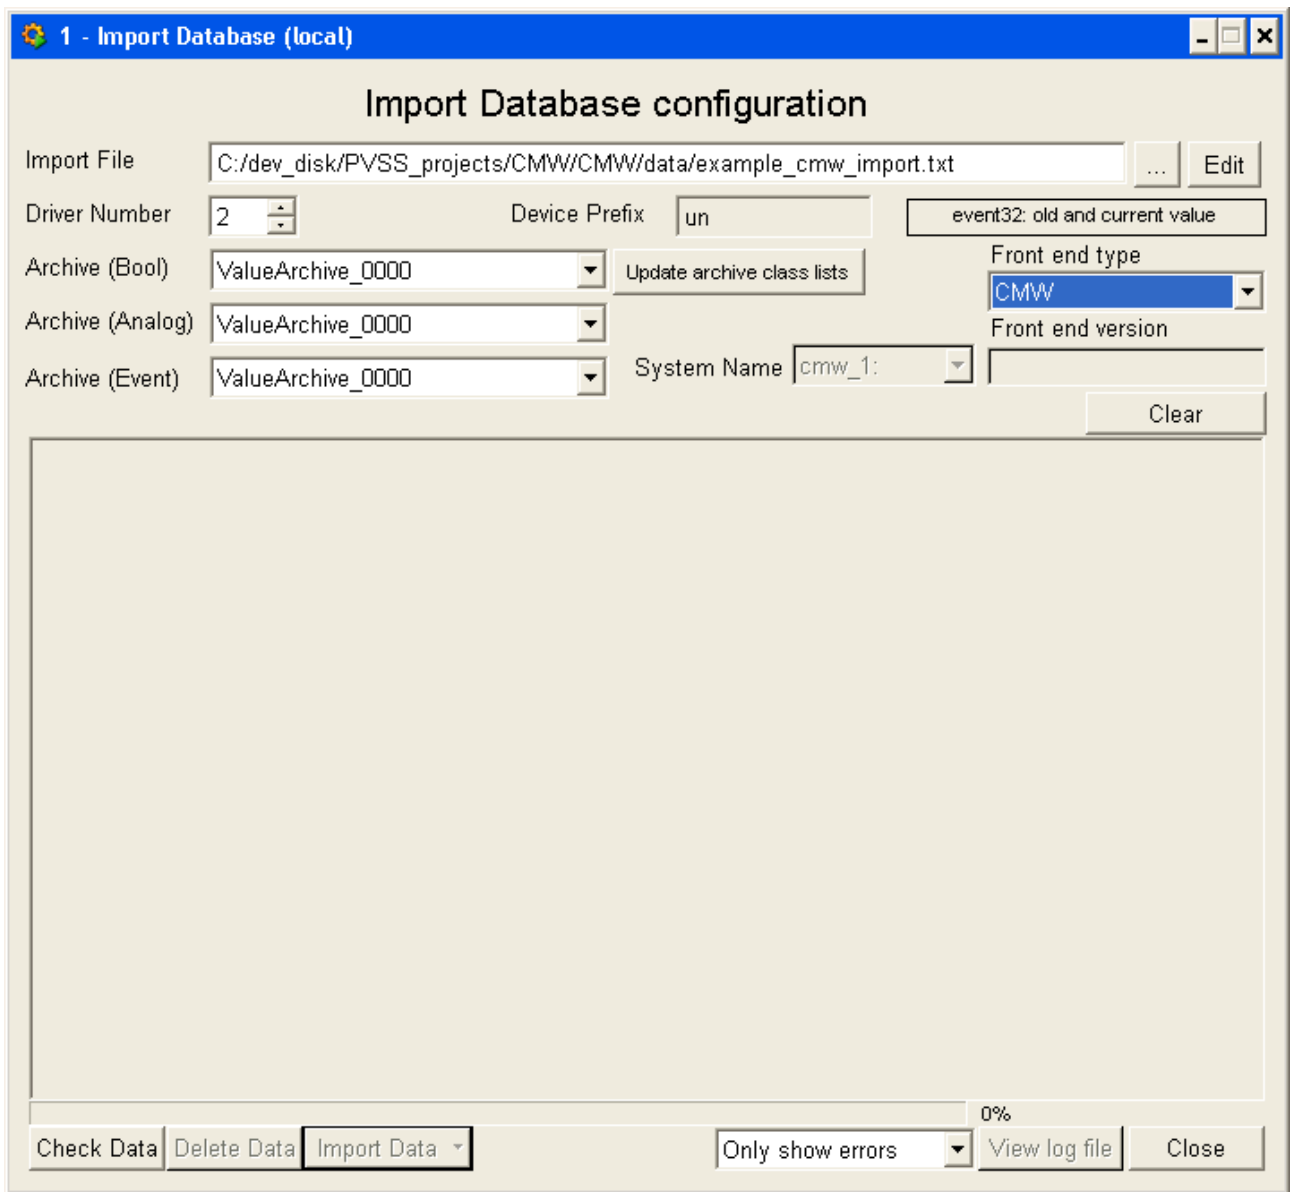

Figure 3: import the CMW front-end and devices.
- start the PVSS00sim -num 2 and import the file 'example\_cmw\_import.txt' with driver 2 and 'CMW' as front-end type (Figure 3).